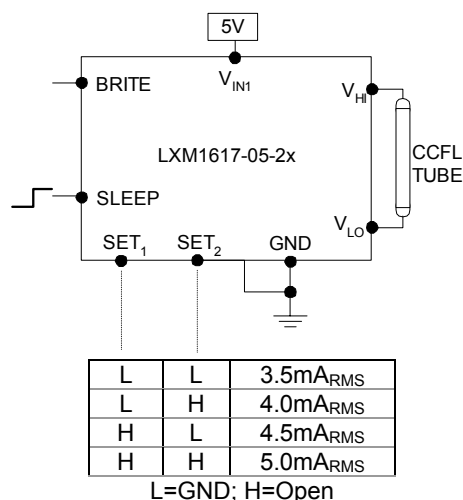

Figure 2 – Max Output Current
- Use the SET₁ and SET₂ (see Figure 2) inputs to select the desired maximum output current. Using these two pins in combination allows the inverter to match a wide variety of panels from different manufactures. Generally the best lamp lifetime correlates with driving the CCFL at the manufactures nominal current setting. However the SET₁ and SET₂ inputs allow the user the flexibility to adjust the current to the maximum allowable output current to increase panel brightness at the expense of some reduced lamp life.